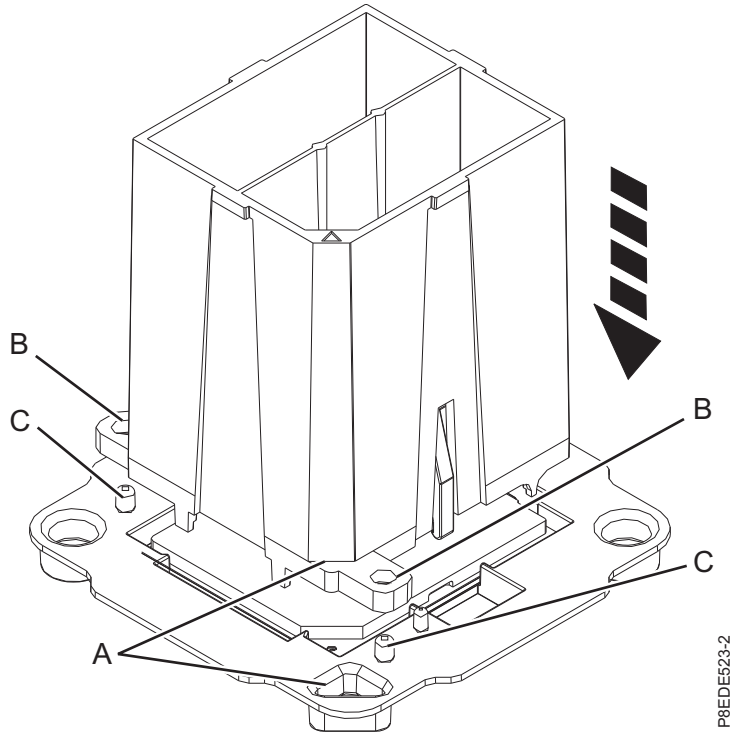
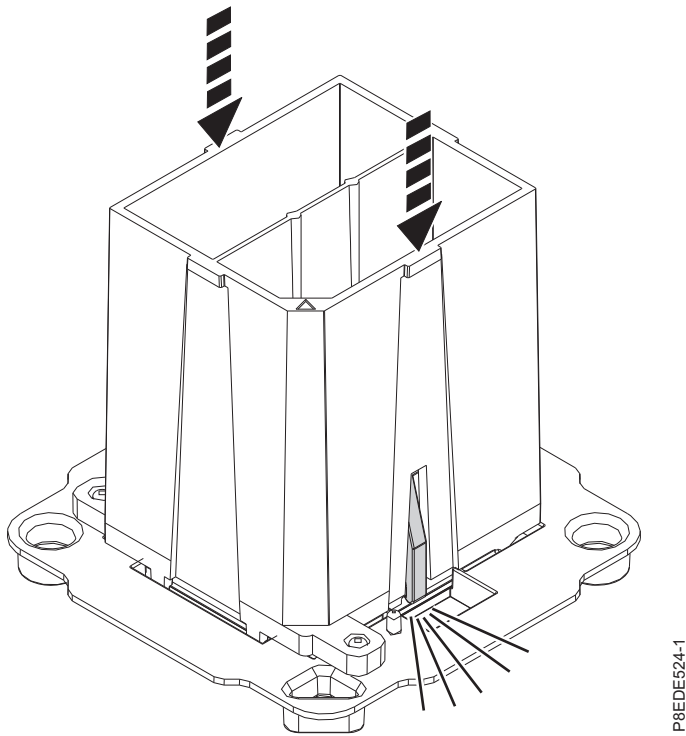

Figure 95. Aligning the removal tool
Figure 96. Locking the system processor module into the tool
- a. Remove the replacement processor module from the shipping tray. Using the supplied removal tool (part number 01AF101), align the beveled corner (**A**) of the tool over the beveled corner of the module, as shown in Figure 95 on page 85.
- b. Lower the tool over the system processor module by ensuring that the two guide pins (**C**) are inserted into the alignment holes (**B**) on each side of the tool, as shown in Figure 95 on page 85. Then, push down on the tool to lock the system processor module into the tool, as shown in Figure 96 on page 85. Do not press the blue release tabs until directed to do so later.